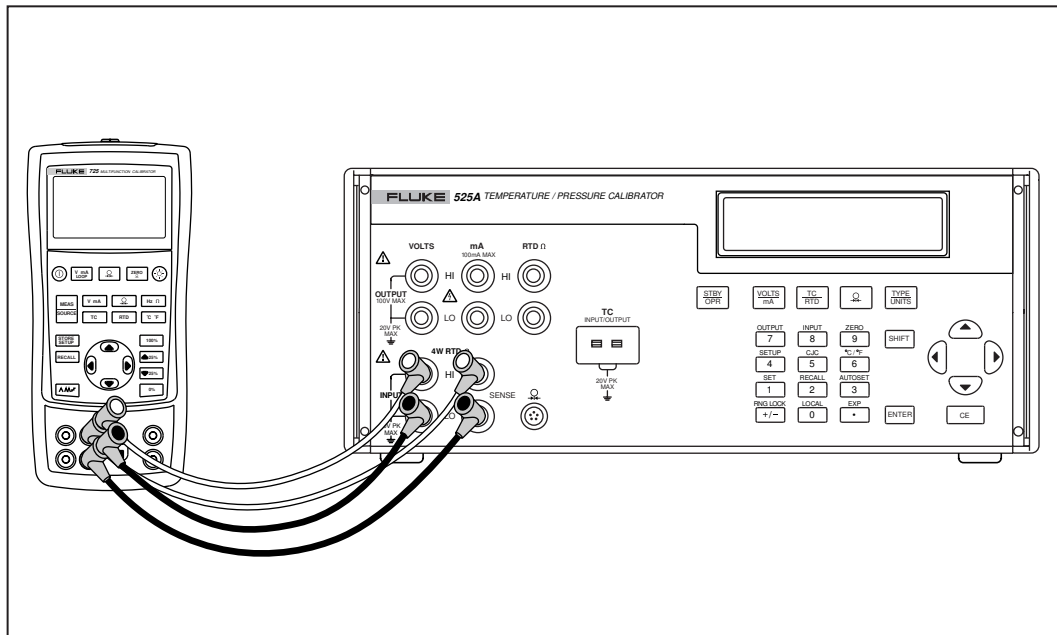

Figure 3-3. Measuring Temperature Using RTDs
1. Connect the Calibrator to the instrument you want to measure as shown in Figure 3-3.